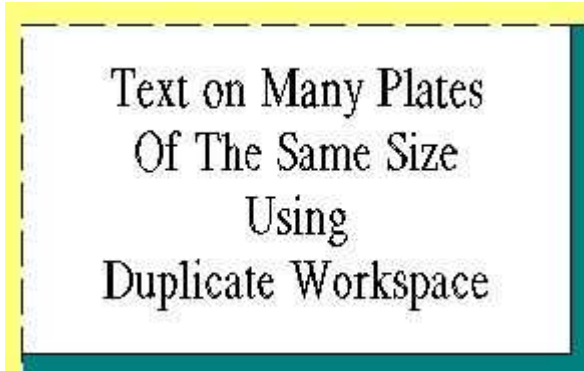

Figure 1
- 1 Compose your drawing on the correct size of a single plate. Then using Auto Layout compose the single plate, just as you would for any simple Flatbed job, see Figure 1.